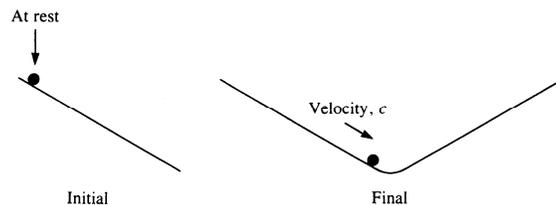

Figure 2 A ball-bearing rolls down a slope—an example of a reversible process
2. If a ball-bearing rolls down a slope without friction the ball loses potential energy, as in the last example. However this time the energy is converted into kinetic energy. This time it is possible to imagine that the process can be reversed, by causing the ball to roll up a similar slope, see Figure 2. In theory and in the absence of friction the kinetic energy will be reconverted into potential energy, and the ball will come to rest at the original height. It is easy to see that any friction will cause the final height to be less than the original height. In general, it is true that friction is a cause of irreversibility in real processes. The potential reversibility of this process occurs because one form of mechanical energy (potential energy) is converted into another form of mechanical energy (kinetic energy).